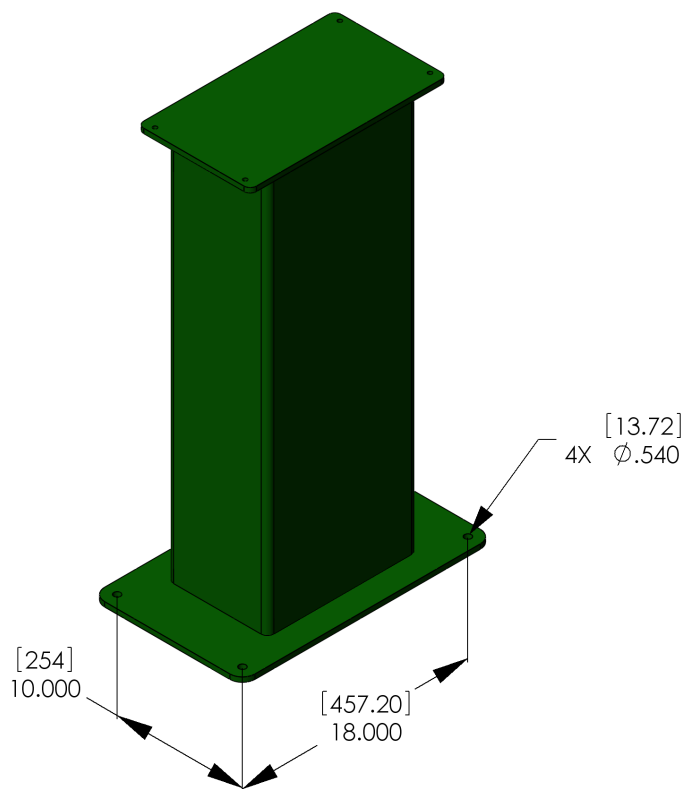

Figure 1. SBS81 Base Plate
The SBS81 Servo Belt Stand is secured by four (4) fasteners passing through mounting holes located in the Base Plate (See Figure 4). The Base Plate mounting hole locations are shown in Figure 1. The SBS81 must be securely mounted to keep the unit from moving during operation. The unit must be mounted level to achieve the desired force output at the Contact Wheels. A spirit level can be placed on the top of the Belt Stand and shims can be inserted under the Base Plate as required.